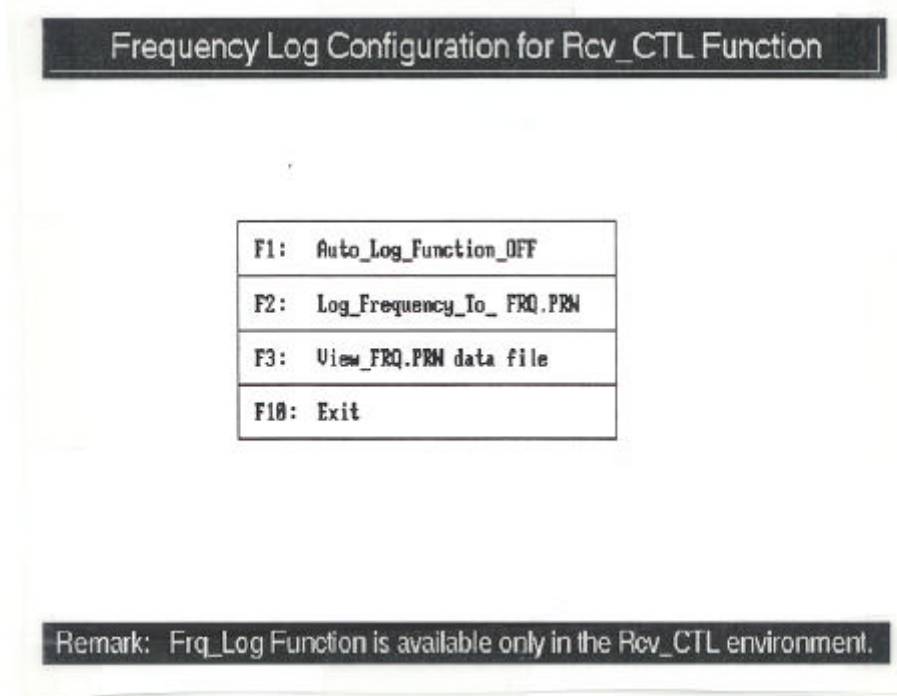

Figure I-5. Frequency Log Configuration Menu
5. <sF5 Frq_Log> - (Only available in the RCV_CTL environment). Pressing this function key switches the screen to the Frequency Log Configuration menu (**Figure I-5**) and enables the operator to control the Frequency Logging function of the MCS-1 while in the Multi-